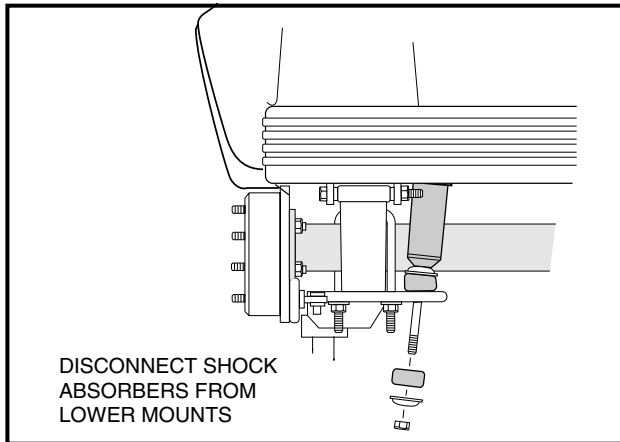

FIGURE 10-21
4. Remove only the *lower* shock mounting hardware from both rear shocks (**Figure 10-21, Page 44**).